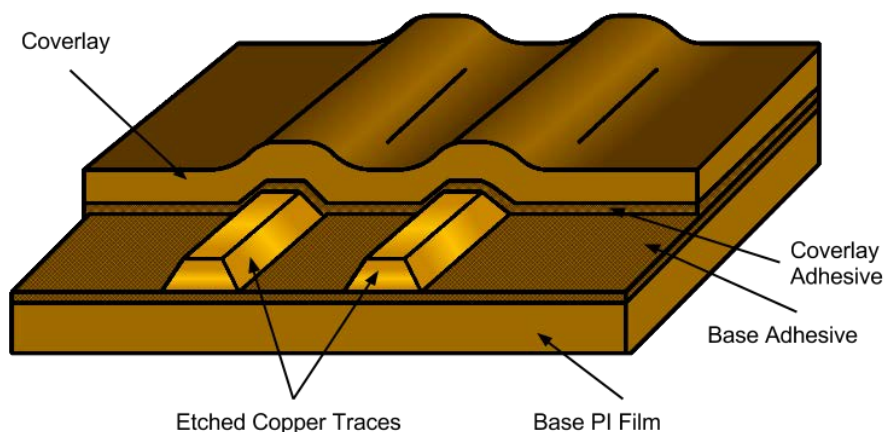

Figure 1: Single layer FPC construction.
The most common method of flexible printed circuit production is to begin with Polyimide (PI) film sheets, typically 2 to 4 mils in thickness, which are pre-coated with laminated or electro-deposited copper foil, on one or both sides. Laminated foil is adhered to the film using a thin (typically 2 mils) adhesive layer. The copper pattern on this flexible substrate is etched using the same process as rigid PCB substrates, using a photolithographic process. **Figure 1** illustrates the construction of a typical single layer Flexible Printed Circuit (FPC). After etching, additional adhesive sheets and PI film layers are laminated onto the FPC to protect the copper, known as coverlays.